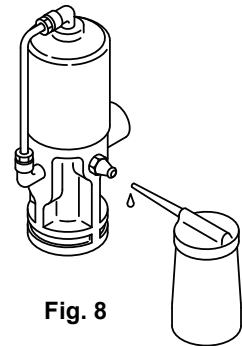

Fig. 8
- 2) Inject several drops (approx. 0.5ml) of lubricant to the air supply port as shown in the figure at right. (Fig. 8)